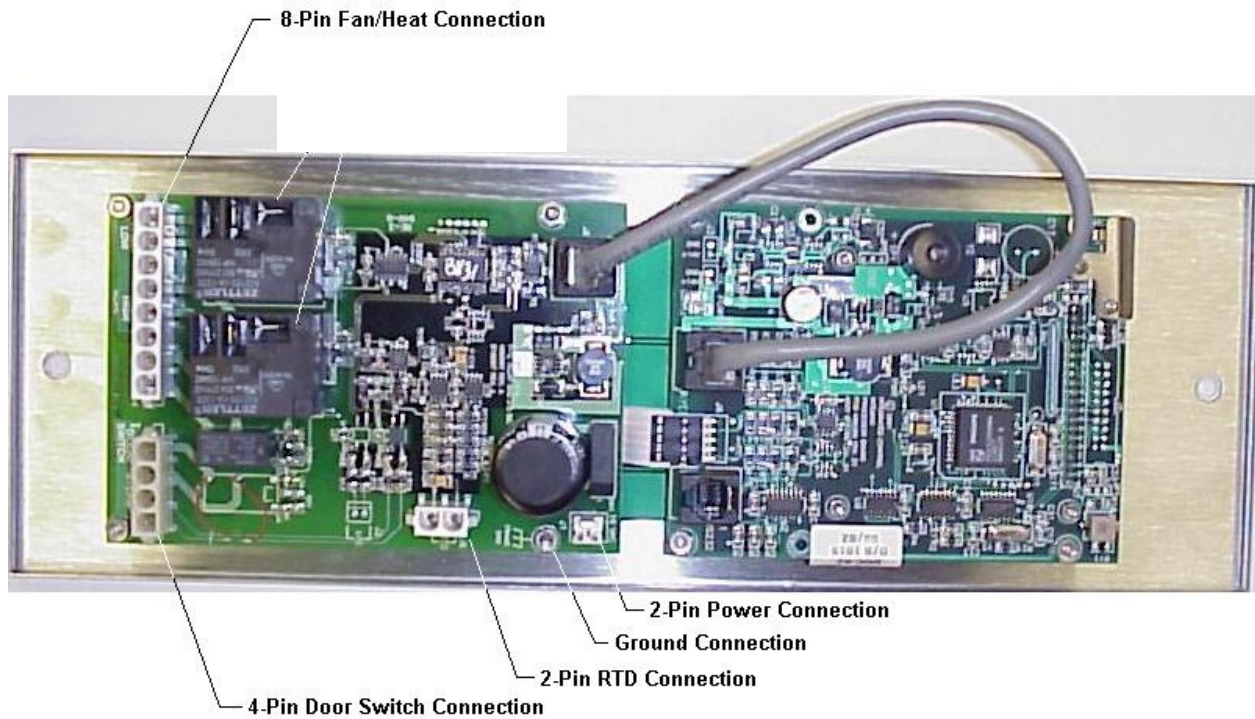
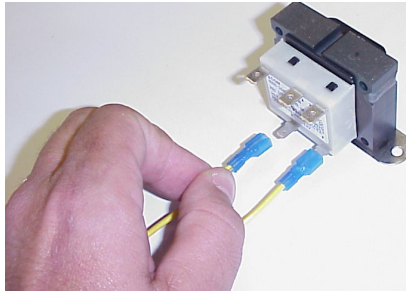

Figure 1A New Control Board Identifications and Connections
Figure 3
Original ovens shipped with the ZP control have different electrical connections from the current controls. We are changing out these controls in order to commonize the electrical connections on all controls. Note: See Figure 1A and 1B for board identification. Note: If your unit already has the new control board, this retrofit is not necessary.
- 7) Hook up ground wire using ground nut indicated in Figure 1A.
detaching at the transformer (See Figure 3).
- 9) Install the new Harness - Transformer to Control Harness (Item A). Attach one end of this harness to the control board (See Figure 1A) and the other end to the transformer secondary (See Figure 3). Note: Either wire can be hooked up to either tab).
- 12) Attach Harness - Door Switch to the control (See Figure 1A)
- 15) Attach Harness - Heat/Fan to control (See Figure 1A)
- 17) Install new Probe-RTD (Item D) and connect to the control board (See Figure 1A). Note: An extra grommet (Item E) has been provided if necessary.